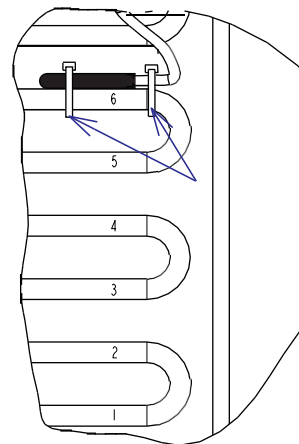

Figure 6: Remove evaporator temperature sensor
8. The evaporator temperature sensor is mounted on the sixth coil up on the evaporator (Figure 6) and has a black rubber molded housing. Cut the ties holding this sensor in place and move it out of the frame.
11. Install the evaporator temperature sensor at the top of the sixth coil (Figure 6), using the cable ties provided. To operate correctly, the sensor must be mounted in the exact position illustrated in Figure 6.